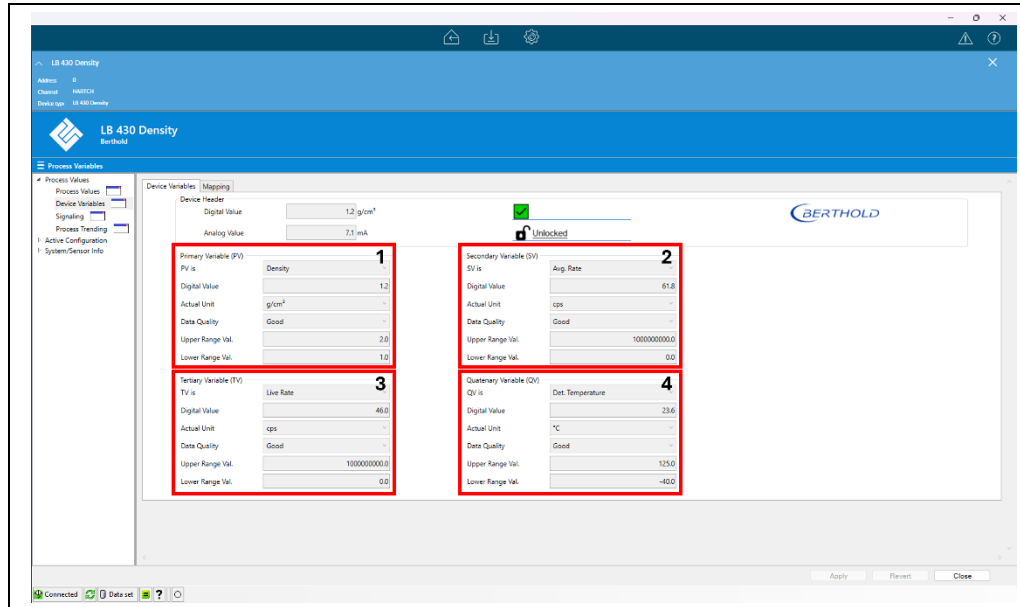

Fig 85 Tab: Process Values | Device Variables | Device Variables.
- PV (Primary Variable, Fig 85, Pos. 1)
- SV (Secondary Variable, Fig 85, Pos. 2)
- TV (Tertiary Variable, Fig 85, Pos. 3)
- QV (Quaternary Variable, Fig 85, Pos. 4)